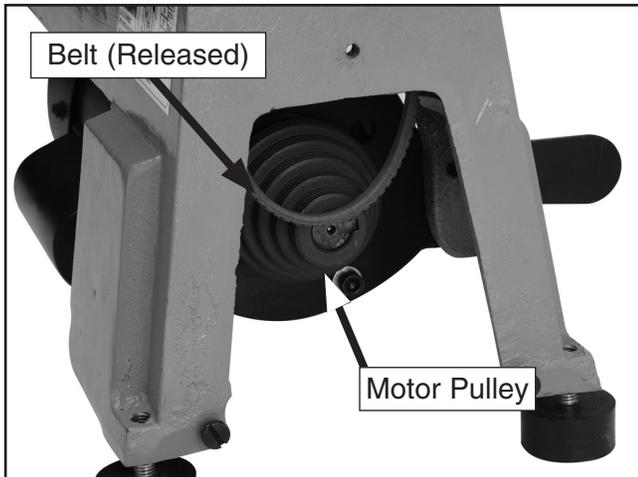

Figure 36. Belt removed from lower pulley.
2. Roll the belt off of the motor (lower) pulley (**Figure 36**).